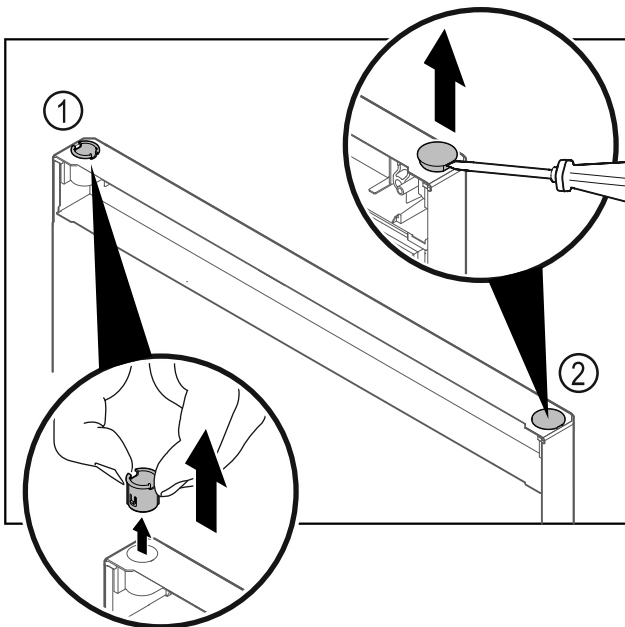

Fig. 23
- Pull out the hinge bushing Fig. 23 (1) with your fingers.
- Carefully lift the cover plug Fig. 23 (2) with a slotted screwdriver and pull it out.